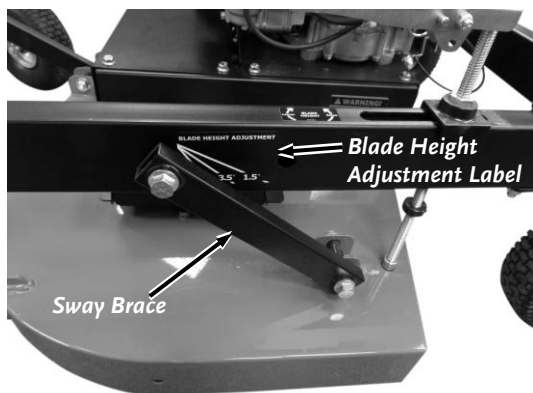

Figure 31
4. Rotate both Height Adjusters in the desired direction, switching sides about every ten full turns, until the top of the Sway Brace is aligned with the desired cutting height lines on the Height Adjust label. (**Figure 31**).